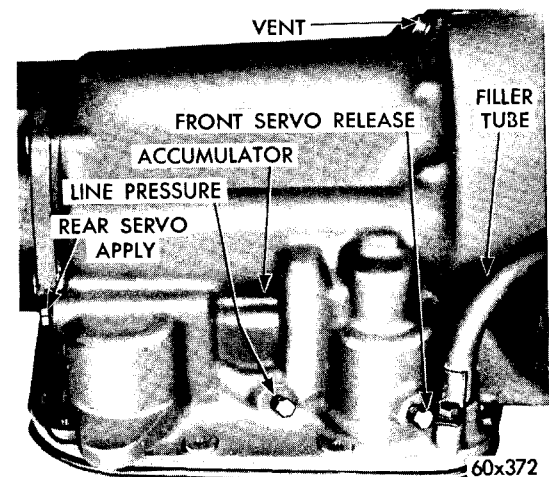

Fig. 14—Pressure Test Locations (Right Side of Case)
(1) Install an engine tachometer, raise car on a hoist and position tachometer so it can be read under the car.
(2) Connect two 0-100 psi pressure gauges, Tool C-3292 to pressure take-off-points at top of the accumulator and at the front servo release (Fig. 14).
(3) With control in D (drive) position, speed up engine slightly until transmission shifts into direct. Re-
(1) Connect a 0-300 psi pressure gauge, Tool C-3293 to apply pressure take-off point at rear servo (Fig. 14).
(2) With transmission control in R (reverse) position and the engine speed set at 1600 rpm, the reverse